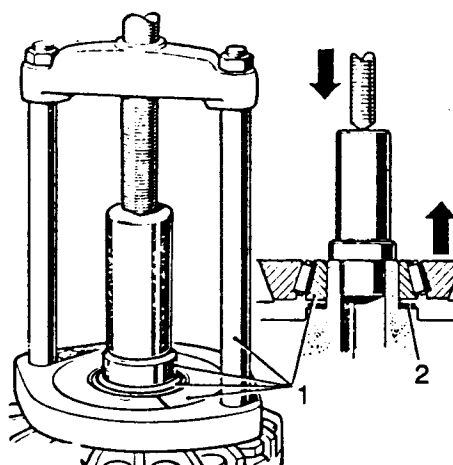

Fig J2.22
(9) Refer to Fig J2.22. Remove the differential bearing cones (1). Remover 18G47BL details 1 and 2, press 18G47C.
(10) Withdraw the shim washers (2) fitted between the bearing cones and the differential casings.